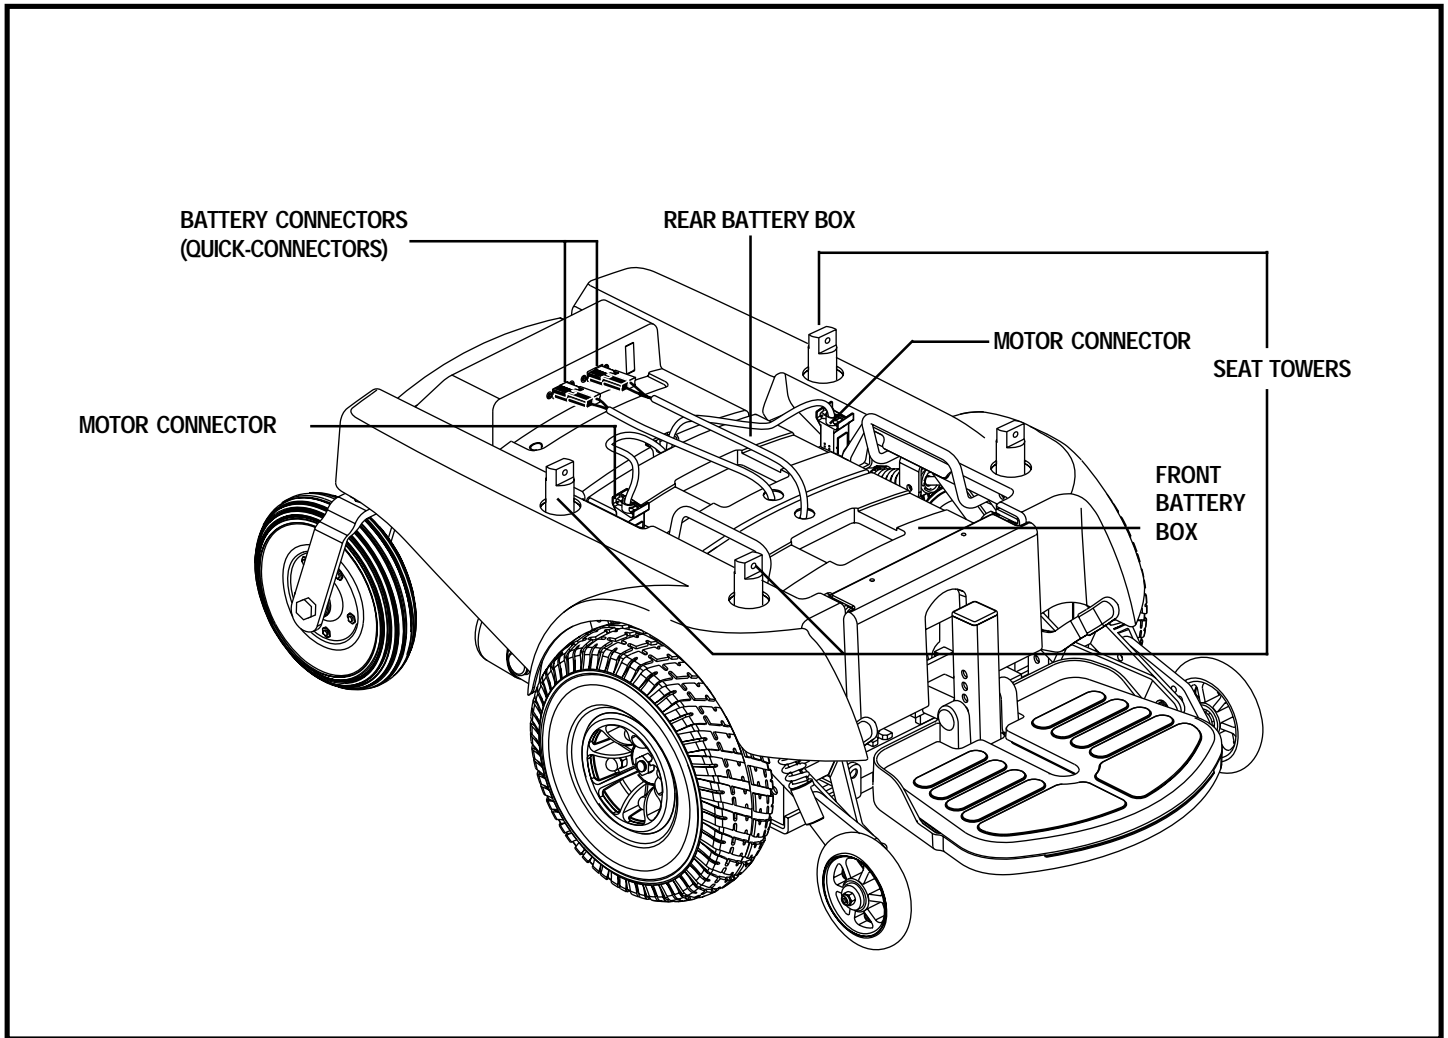

Figure 7. Power Base Top View
5. Disconnect both battery connectors and both motor connectors. See figure 7.